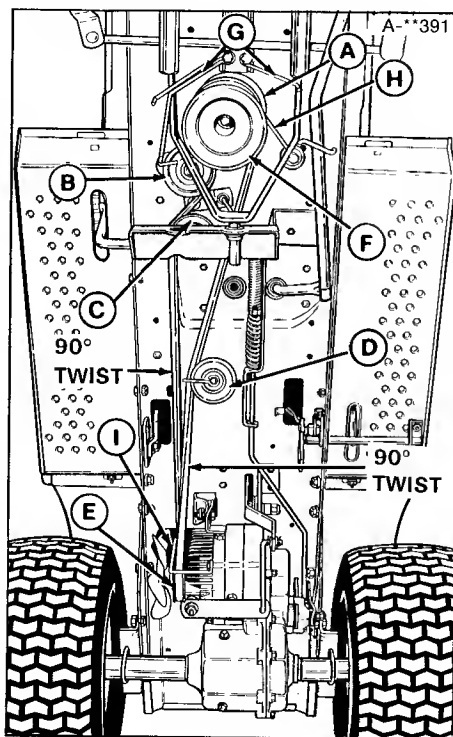
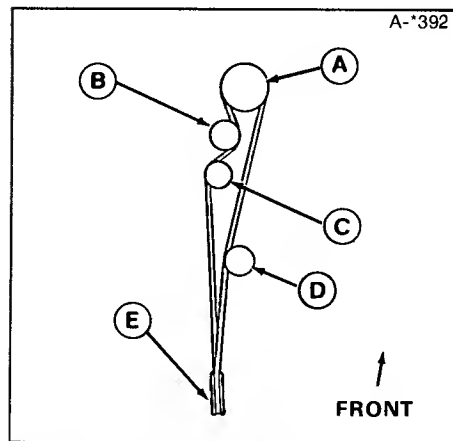

Figure 21. Tractor seen from underneath
Figure 22. Belt Diagram
2. Loosen the PTO pulley belt stops (G, figure 21).
3. Either remove the mower, or slip the mower belt off the PTO pulley (F).
5. Loosen the belt stop on front idler pulley (B) and remove the belt.
6. Remove the idler pulley (D) by removing capscrew and nut.
7. Remove the belt guide (I).
10. Install the new belt by reversing the procedure. Be sure the V side of the belt is against all the pulleys except the flat idler pulleys (B and D). There are only two twists in the belt, as shown in figure 21. The belt diagram is shown in figure 22.
Reference letters in Figure 22 are same as Figure 21.
4. **48" Mower Only.** Remove both arbor covers by removing two carriage bolts in front and two capscrews in back. See figure 22. Remove attaching hardware.